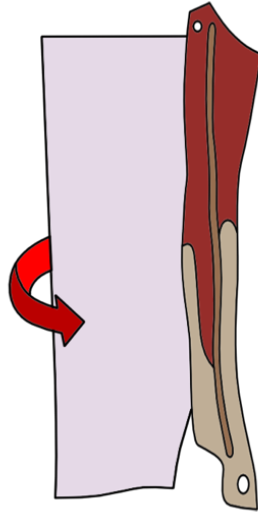

Figure 9. Placing Fascia on Muscle
- b. To adhere the fascia to the muscle (**Figure 9**), first correctly align the muscle over the fascia. Lay the fascia upside down, so the adhesive side